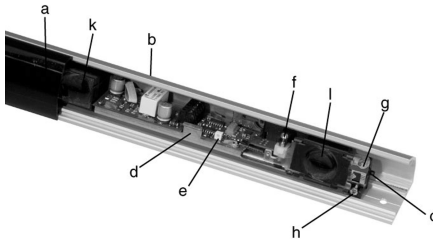

Figure 1.1 Internal design of the device
5. Place the modules between the module holders (c). Subsequently use the screw M2.5 (h) to screw down to the module holder (cf. Figure 1.1).